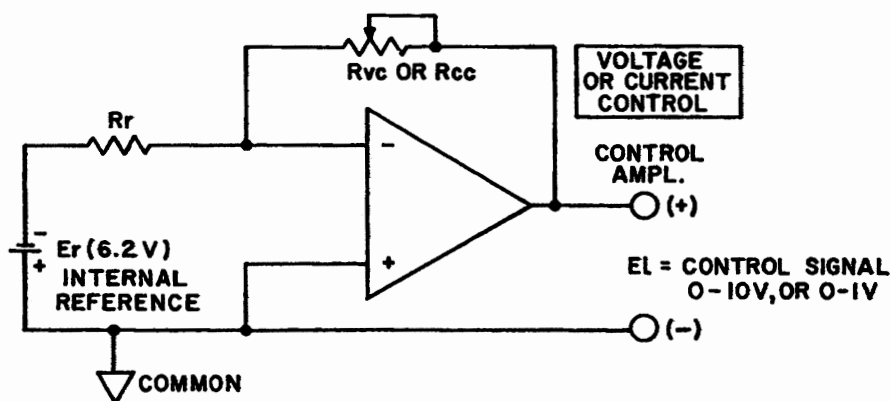

FIG. 4-4 GENERATION OF THE INTERNAL CONTROL SIGNAL FOR THE ATE VOLTAGE AND CURRENT CHANNELS.
- 4-8 The internal feedback components in the voltage, as well as in the current control channel of the ATE are selected for each ATE model such that a 0 to 10 volt d-c signal, applied to the VOLTAGE COMPARISON AMPL. or 0-1 volt to the CURRENT COMPARISON AMPL. control the full output range for each ATE model. For local (front panel) control of the ATE output quantities a CONTROL AMPLIFIER is used in a similar manner for the voltage as well as for the current channel. (See FIG. 4-4) to produce the required 0-10V or 0-1V control signal.
- 4-9 To produce the internal 0–10V or 0–1V control signals (E_i), an operational amplifier is used in the inverting configuration, as shown in FIG. 4-4. The output equation for the circuit is $E_i = E_r (R_{VC}/R_r)$.